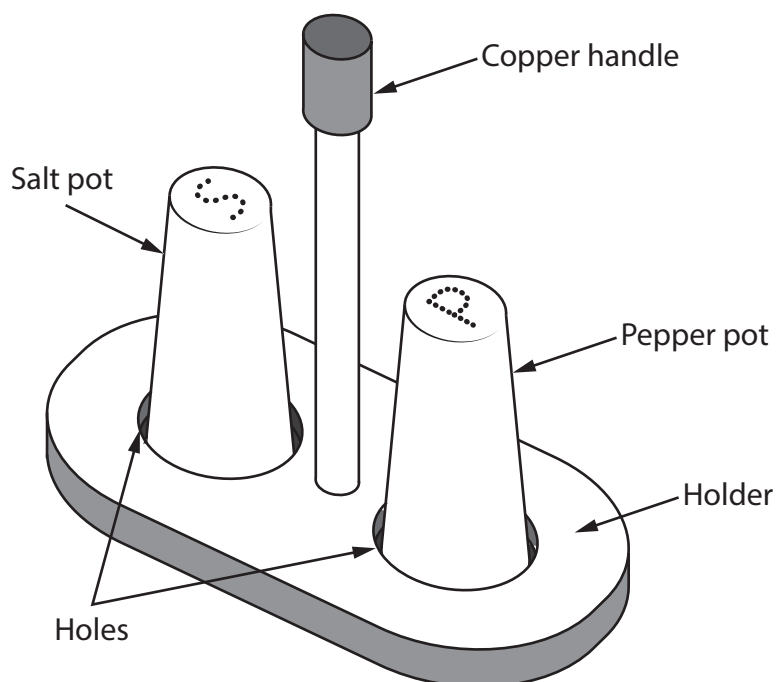

Figure 12
- 8 Figure 12 shows a holder for salt and pepper pots that is manufactured from stainless steel.